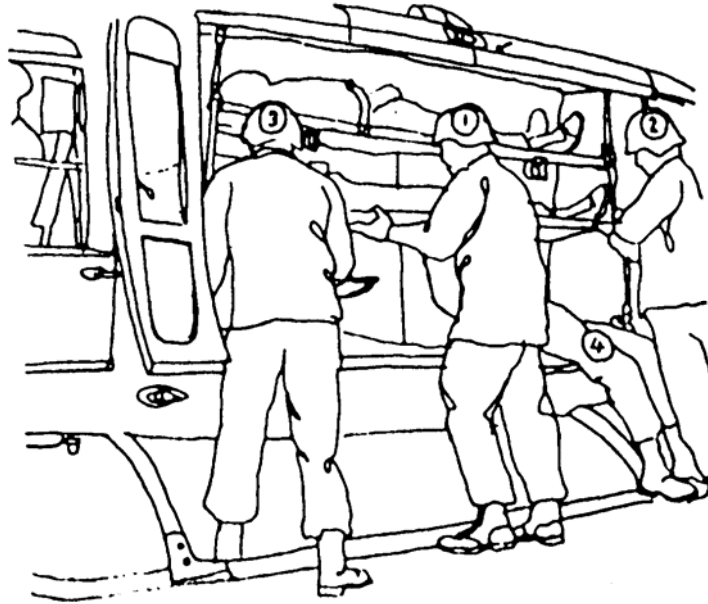
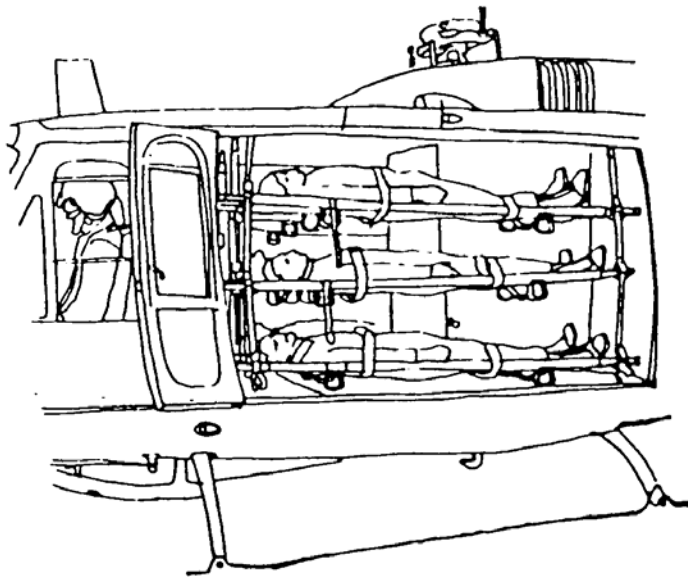

Figure 5-7. Loading the second litter (left side) into an Iroquois air ambulance.
Figure 5-8. Iroquois air ambulance with six litter casualties loaded.
(8) The bearers and crewman make sure the litter handles are secured (locked) in the brackets and further secure the litter handles with the litter retaining straps found near each bracket.
(9) The litter squad leaves the helicopter as a unit and obtains the next litter to be loaded.
(10) The middle litter is loaded using the same procedures.
(11) The lowest litter is loaded using similar procedures. The inside rear bearer cannot enter the cargo compartment, so he remains outside the helicopter while assisting the crew member in placing the litter in the brackets and securing the litter handles with litter retaining straps.
(12) The other side is loaded using the same procedures. Figure 5-7 shows a casualty being loaded into the left side of the cargo compartment. Figure 5-8 shows an Iroquois air ambulance with all six litter casualties loaded.